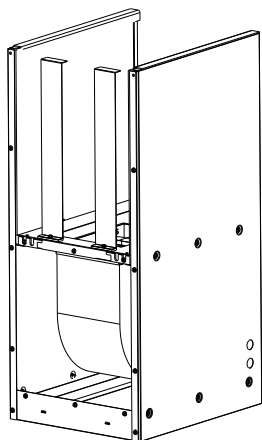

Figure 1: Downflow Bracket (A) attached to the chassis of the fan cabinet
**Step. 7b** Screw in Downflow Bracket (A) as shown in Figure 1. Figure 2 shows how the HEX assembly will be supported by the Downflow Bracket (A) when in the final installation orientation.
**Note:** When tightening the screw, make sure the Downflow Bracket (A) aligns with the chassis of the fan cabinet. Reinstall the back panel, then secure the top panel with original screws removed in step 1.